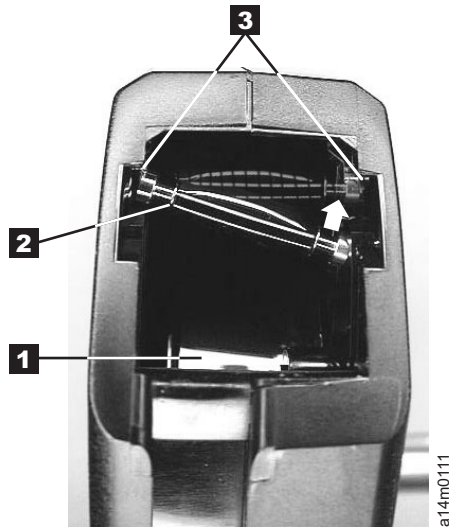

Figure 67. Placing the dislodged leader pin into the correct position.. The cartridge door is open, showing the leader pin out of position
1. Slide open the cartridge door (see **1** in Figure 67 on page 265) and locate the leader pin **2** (you may need to shake the cartridge gently to roll the pin toward the door).